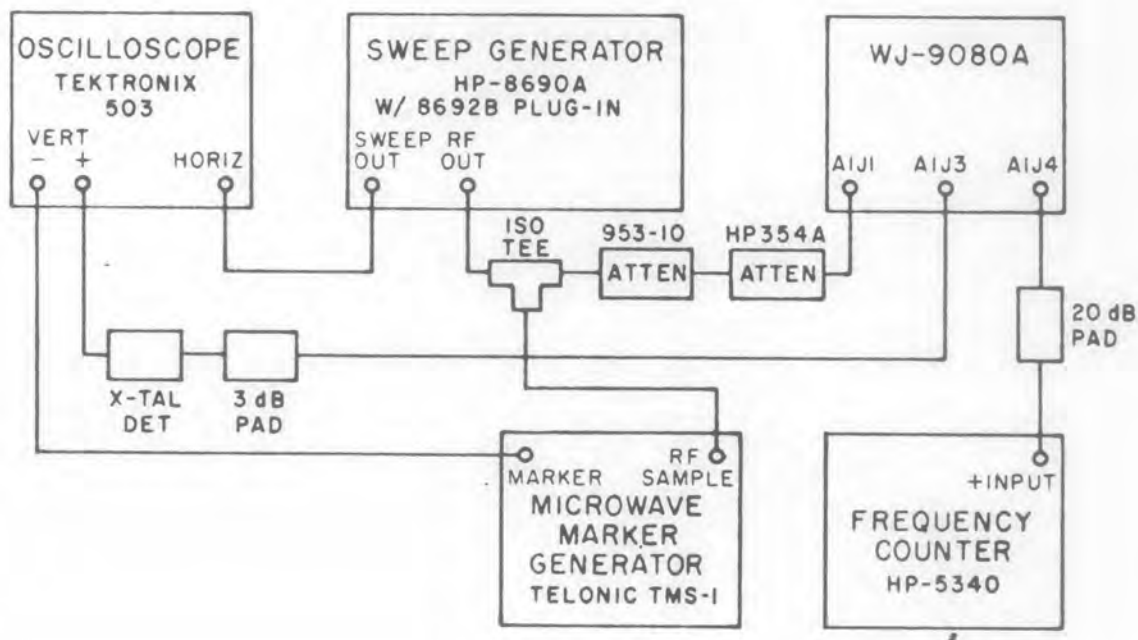

Figure 4-2. Equipment Setup, 2160 MHz IF Amplifier Converter Alignment
- (1) Interconnect the test equipment as shown in Figure 4-2.